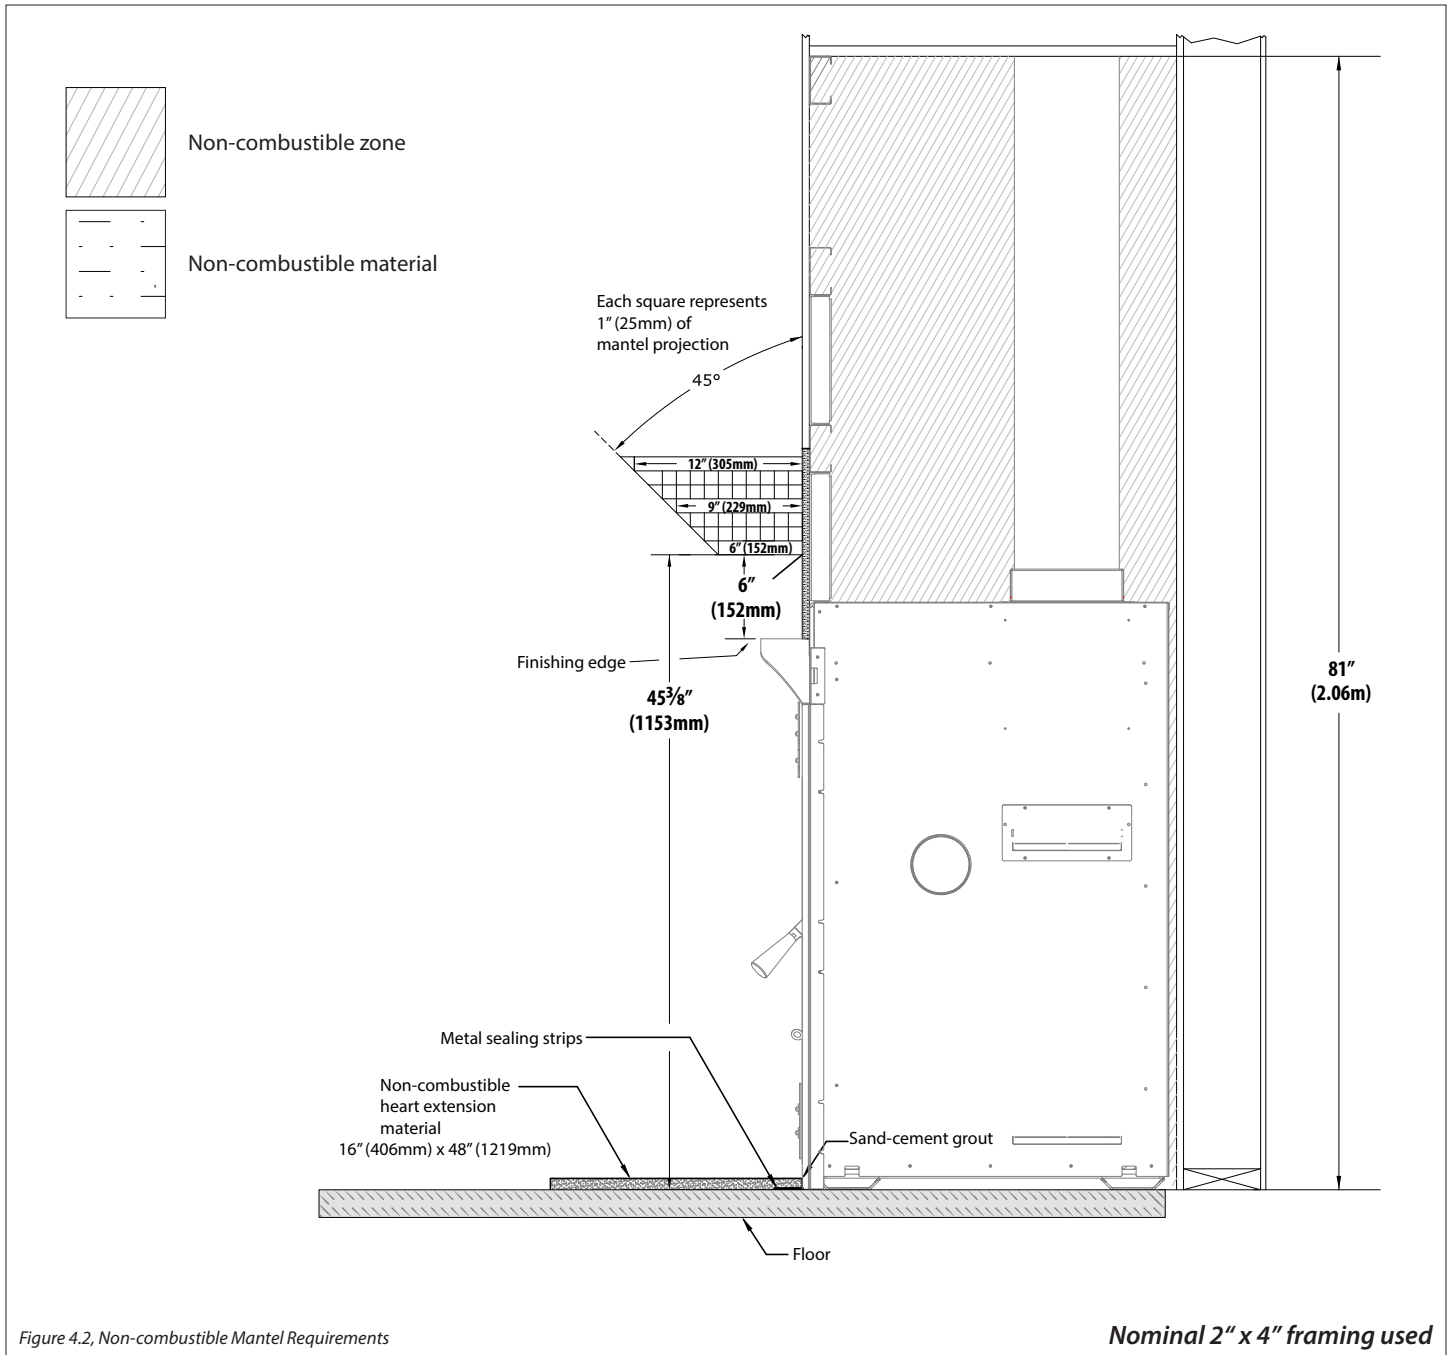

Figure 4.2, Non-combustible Mantel Requirements
- **Non-combustible Mantel Projections:** A minimum vertical clearance of 6" (152mm) above the top finishing edge to a maximum 6" (152mm) depth of a non-combustible mantel. Follow projection 1" (25mm) up for every 1" (25mm) deeper. See Figure 4.2 on page 22.